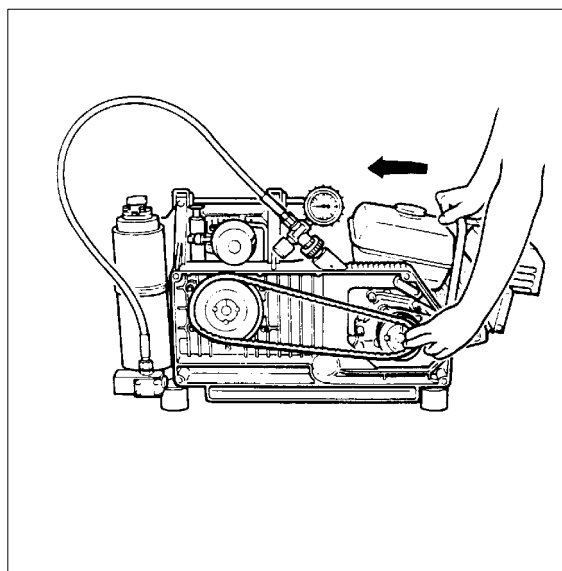

Fig. 20 V-belt pulleys
- Then lift motor, place V-belt onto both V-belt pulleys (Fig. 20).